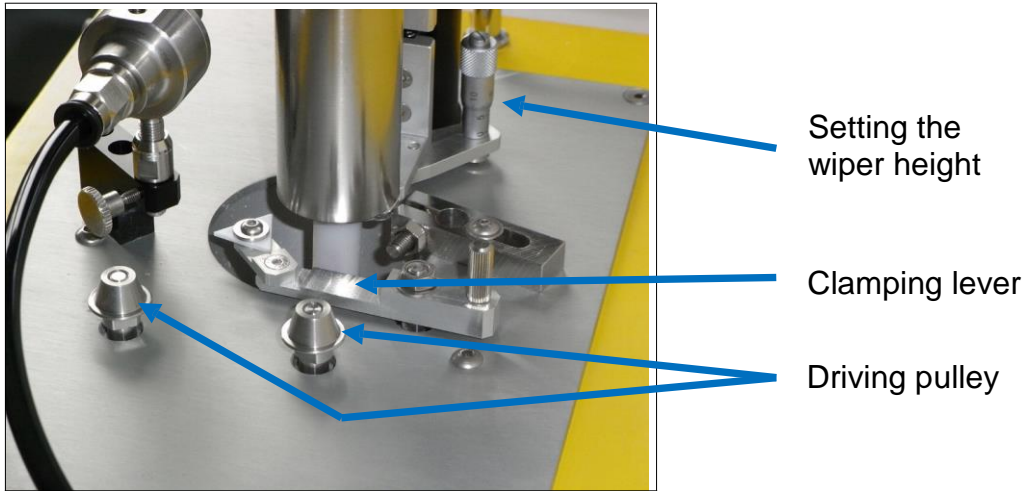

Figure 8: Dosing Mechanism without Dosing Ring
- The dosing ring is now being charged with powder. Reducing the wiping height by means of the adjusting screw (Figure 8) the desired height of the powder can be set. (It is recommended to ensure a homogeneous powder charging without any spaces and at uniform height, see Figure 8)